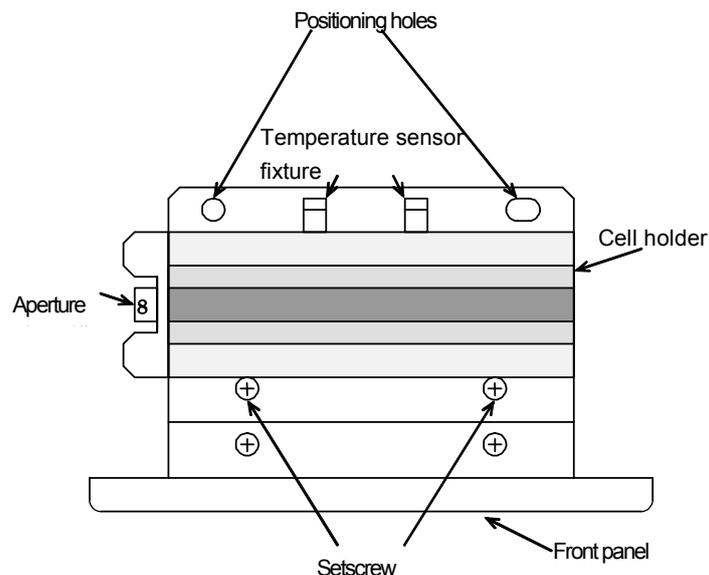

Figure 5.1 Sample cell holder (Top view)
5.2.3 Remounting the Sample Cell Holder (see Fig. 5.1)